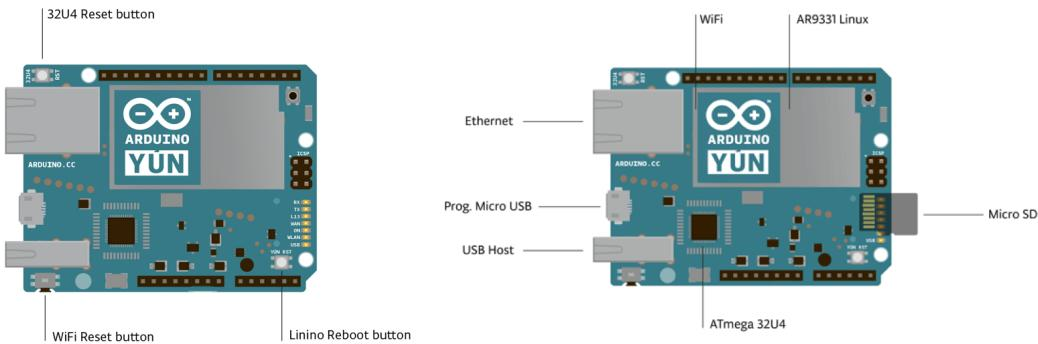

Figure 7: Arduino Yun button locations and overview schematic.
- If it doesn't appear, hold the wlan reset button until the Yun LEDs blink. Figure 7 shows the reset button locations. See Sec. 7 for more suggestions if this still doesn't work.
3. Look for the Yun's wifi network. If it doesn't appear, hold the wlan reset button until it blinks. See Fig. 7 for reset button locations. Pressing all three buttons for several seconds will reset the Yun to factory defaults.